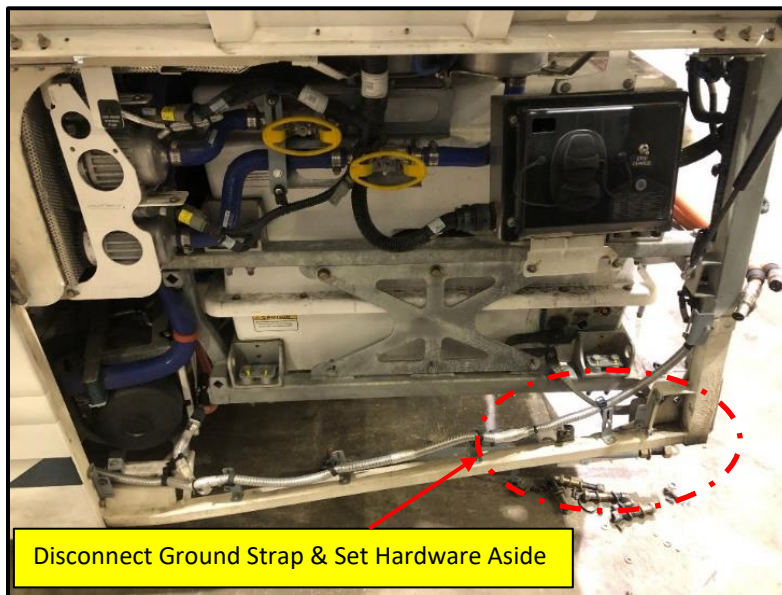

Figure 15: ESS Ground Strap to Bus Frame Location Reference.
52. From streetside rear corner, disconnect ESS grounding strap to bus frame. See Figure 15.